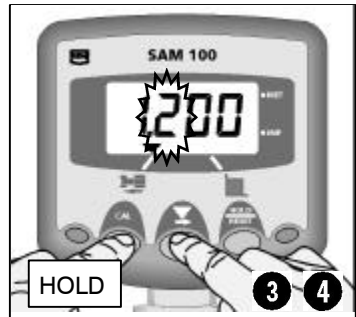

Figure 7: Edit Speed Sensor Factor
4. **HOLD** the  button to cycle the digit from 0 to 9 (fig. 7).